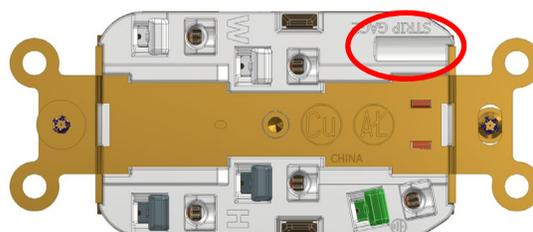

Fig. 5
- Strip each conductor according to the strip gage located on the back of the receptacle as shown in Fig. 5.